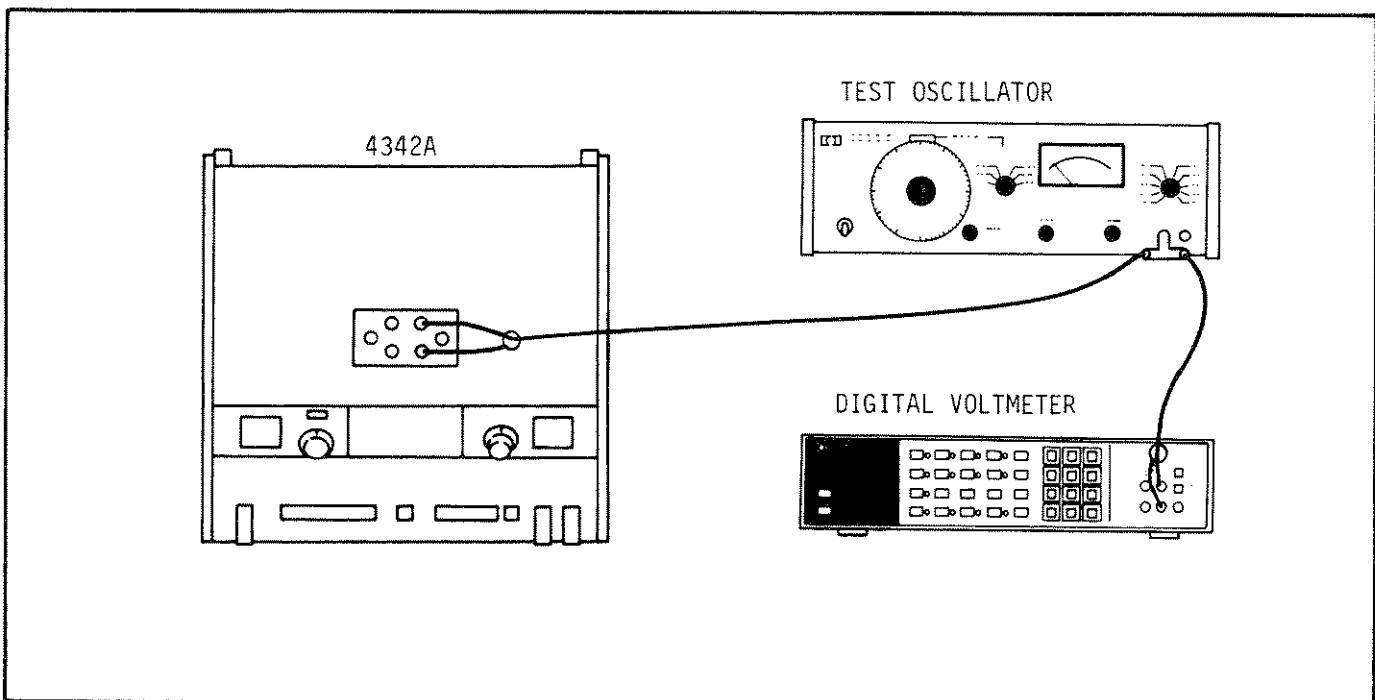

Figure 5-6. Voltmeter Adjustment.
- a. Connect the Test Oscillator and the Digital Voltmeter to 4342A as shown in Figure 5-6.
- d. Connect the Test Oscillator to the 4342A as shown in Figure 5-6.